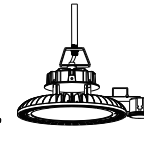

Figure 18
1. Installation of fixture with motion sensor. (Figure 17), (Figure 18)